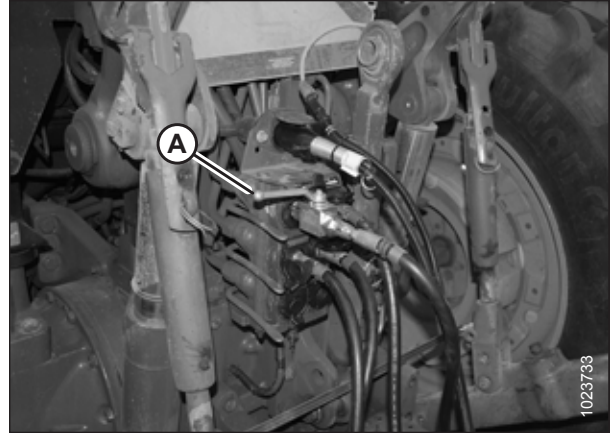
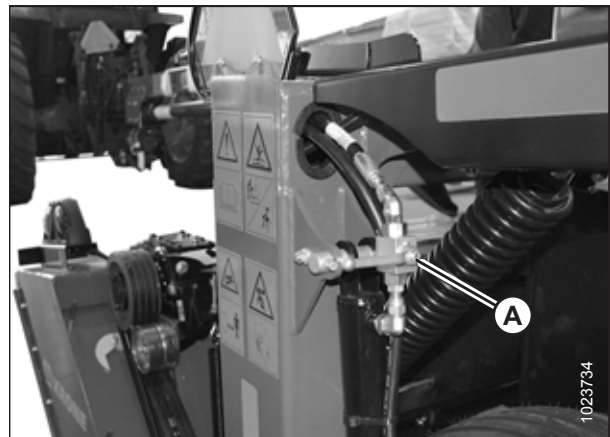

Figure 3.85: Steering Lock-Out Valve
Figure 3.86: Lift Cylinder Lock-Out Valve
10. Close the steering lock-out valve and the two lift cylinder lock-out valves by turning the handles to the closed position. Refer to Figure 3.85, page 78 and Figure 3.86, page 78.